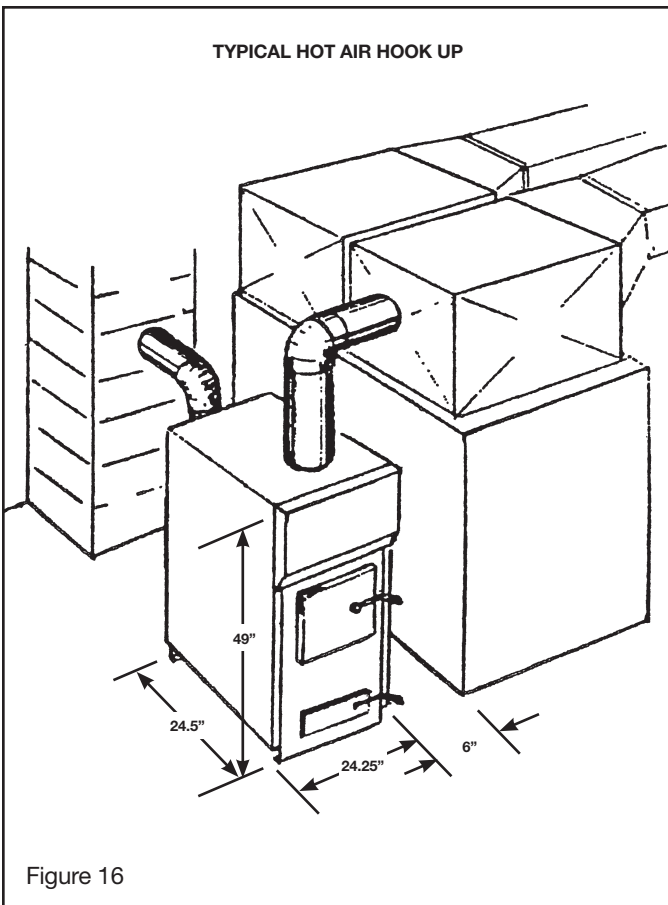

Figure 16
4. Install the blower assembly to the back of the unit as shown in Figure 3. See Figure 16 for typical hot air hookup.